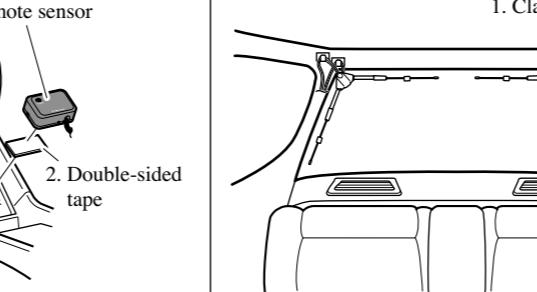

Fig. 3
**Installing the remote sensor (Fig. 3)**